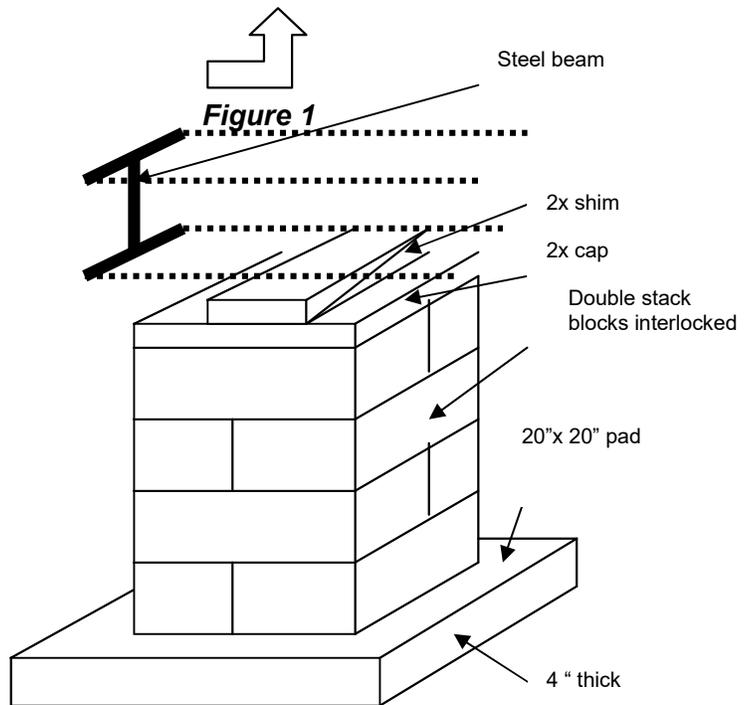

Figure 2
- If they are over 3 feet but less than 7½ feet high, they must be double-stacked with interlocking stacks. See Fig. 2.